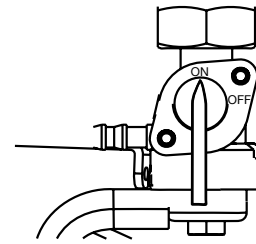

Figure 3: Fuel shut off valve - ON
5. Move the fuel shut off valve to the **ON** position (see Figure 3).